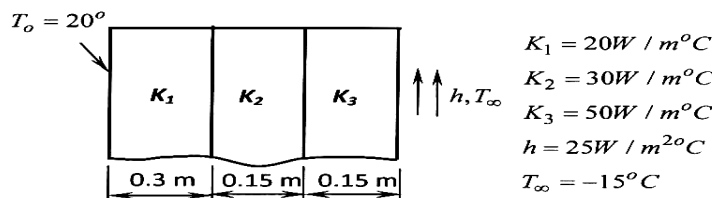

Fig. Q9(b)
b. Inner surface temperature of a composite wall shown in Fig. Q9(b) is maintained at 20°C . The convective heat transfer takes place at outer surface with $h = 25 \text{ W/m}^2\text{C}$ and $T_\infty = -15^\circ\text{C}$. Determine temperature distribution in the wall.